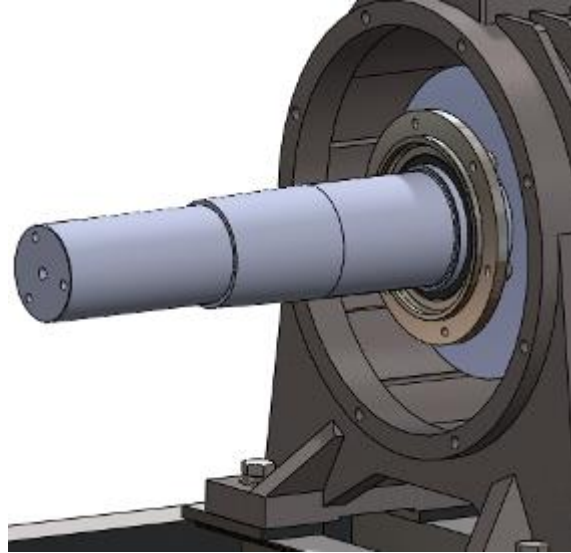

Figure 130: Install inner cover
1. Clean the main shaft, put the proper bearing grease (OEM or Shell Gadus S3 V220 C) on the inner cover, then install it on the main shaft. See Figure 130.